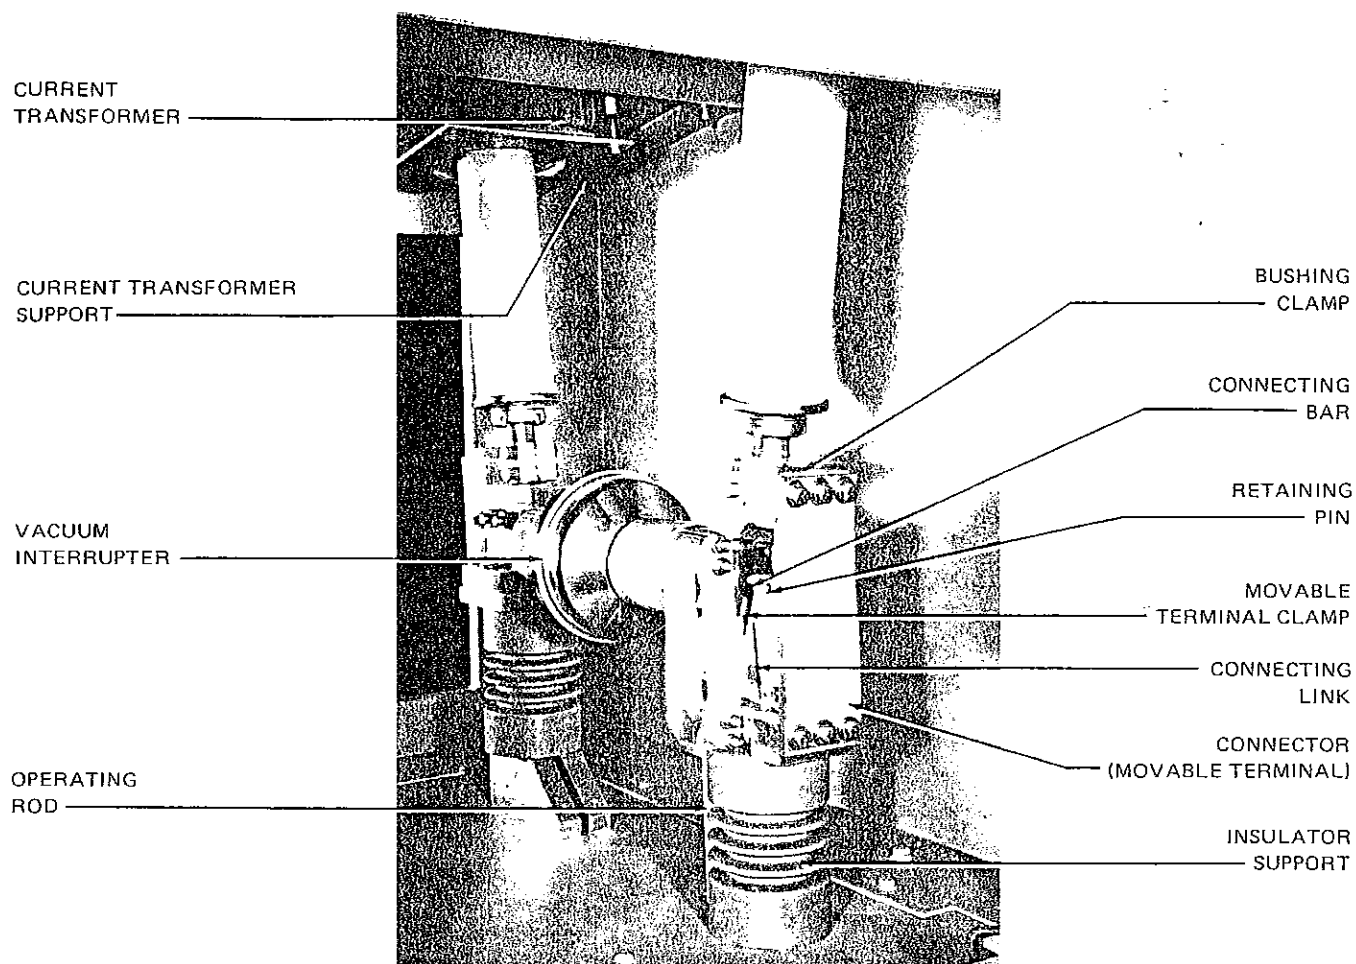

Figure 13
- C. At the movable terminal clamp, remove the pin retaining the connecting link to the connecting bar on the vacuum interrupter (Figures 13 and 15).